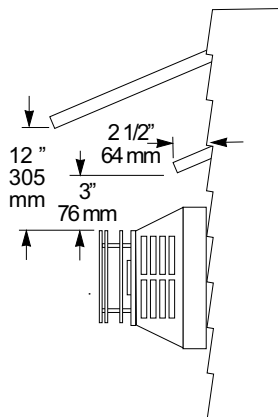

Figure 14. Termination Clearance to overhangs
- The horizontal termination cap must maintain a 3" clearance to any overhead combustible projections 2 1/2" or less. It must also maintain 12" clearance from projections exceeding 2 1/2". See fig. 14.